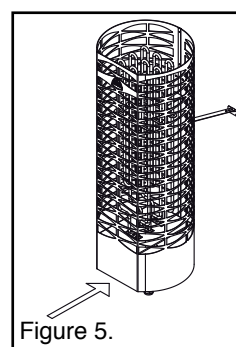

Figure 5.
- The heater's control switch is located in the front at the lower part of the heater (see Fig. 5).